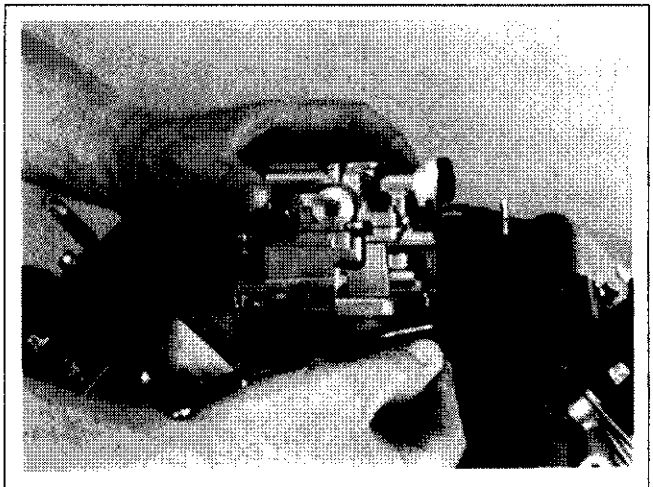

Figure 9-21. Removing Carburetor Assembly.
3. Remove the carburetor, throttle linkage and governor lever as an assembly. See Figure 9-21.